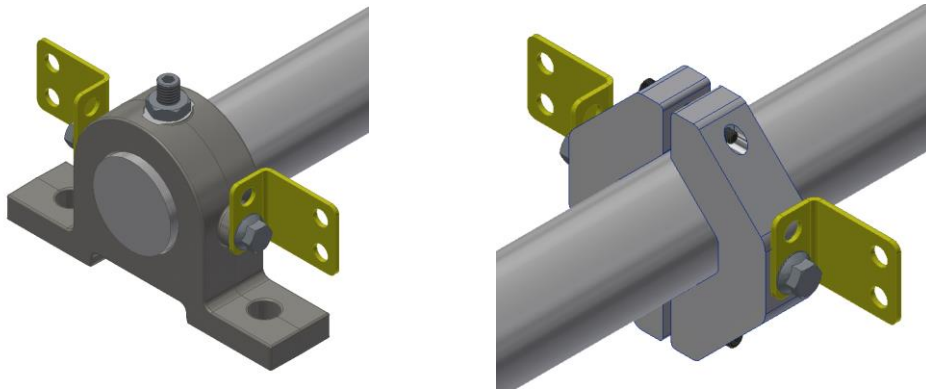

Figure 3: Rope Retainer Side Plate Mounting Brackets
- Position the rope retainer side plate mounting brackets as shown below in Figure 3.